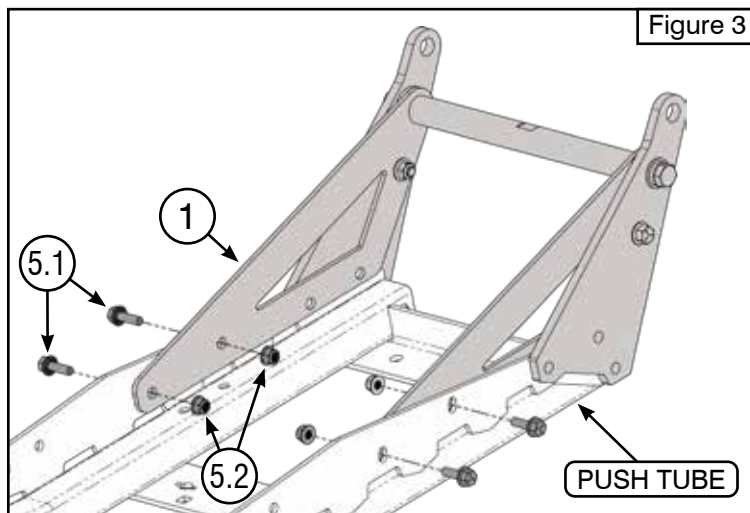

Figure 3
4. Place the subassembly onto the push tube. Ensure gusset (1) is placed inside the rib on the push tube. Loosely install front bolts (5.1) and lock nuts (5.2) as shown in **Figure 3**.